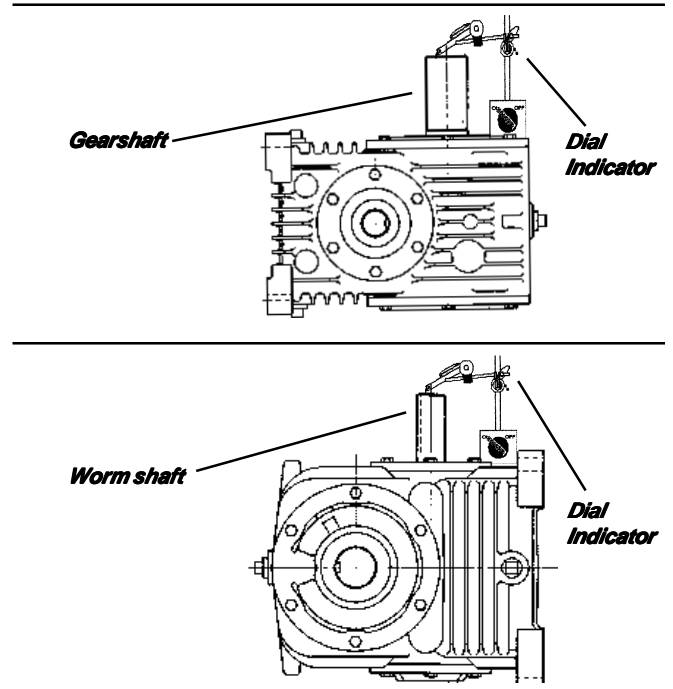

figure 7
1. The first step for checking bearing settings is to assemble one (1) gear carrier starting with the same number of shims as with old reducer or the nominal shim thickness called for on the assembly drawing. Install the gearshaft assembly and bolt the remaining gear carrier and shims into the housing. Rotate the shaft while tapping on the end to seat the bearing rollers. Check the gear bearing setting with an indicator as shown in figure 7. With the dial indicator set at zero, pull up on the shaft while watching the dial indicator. Add or subtract shims as necessary to achieve the proper bearing setting shown in figure 3. The shims should be equal under both carriers so that the worm and gear are centered in the housing, unless there is a grease retainer being used.
2. Remove one (1) gear carrier and the gear shaft assembly from the housing. Note: Keep track of the amount of shims needed under the carrier.